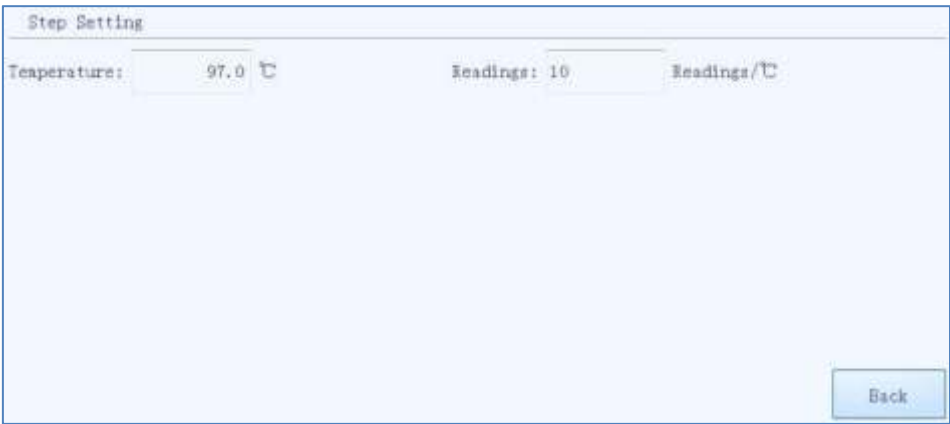

Figure E-3.9 Step Edit window - Continuous Melting step mode
- 6) If the current step is the last step of a continuous melting stage, the step setting window of this step is as shown in figure E-3.9.